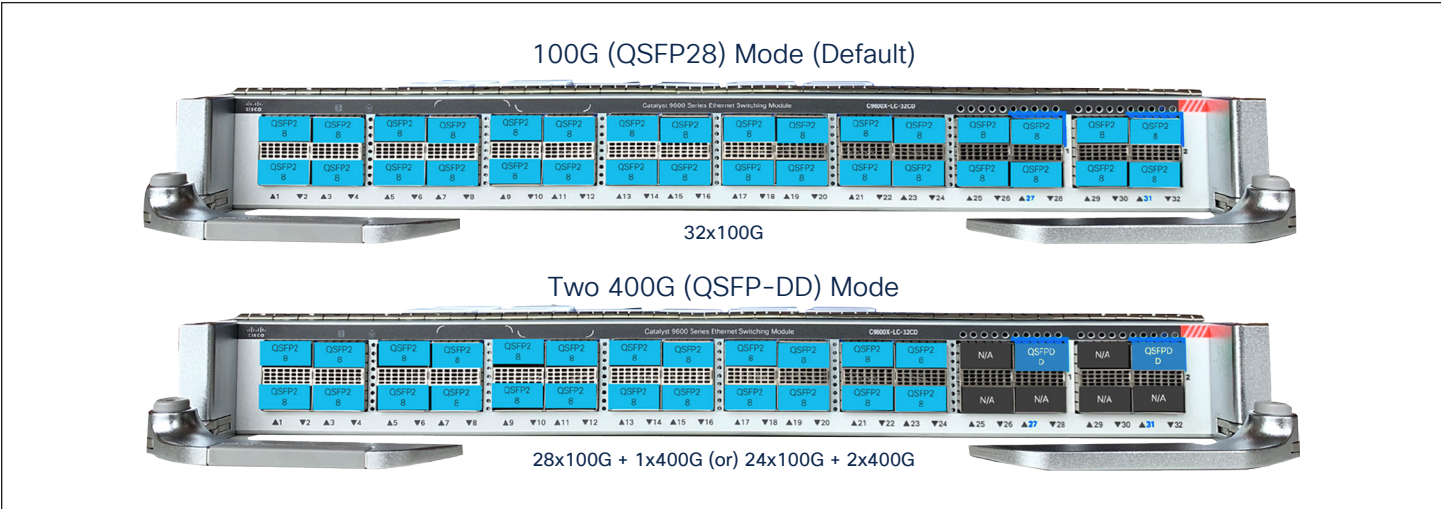

Figure 17. Available ports configuration mode with C9610-LC-32CD and C9600X-LC-32CD line cards
- Up to 30 ports of 100/40 GE non-blocking (Figure 17)
- 28 ports of 100/40 GE and 2 ports of 400/200¹/100/40 GE non-blocking (Figure 17)